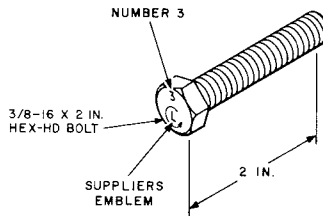

Fig. 21—Approved Splice Case Bolt
- 3.32 Check the bolts furnished with the splice case. If the bolts have the numeral 3 on the heads and are 2 inches long, they are satisfactory (Fig. 21). **No other bolts should be used.**